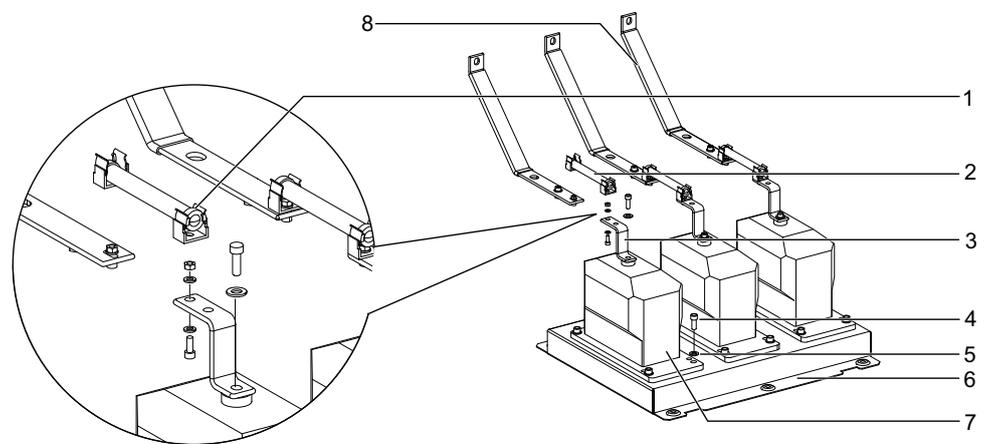

Figure 55
1. Press the fuse lock (1) , and pull the fuse (2) upwards.
2. Remove the fuse (2). Refer to Figure 55.
1. Unscrew the M10 screws (4) and remove the washer (5) provided on the mounting plate (6) on the either side of VT (7). Refer to Figure 55.
2. Remove the fuse lock (2) from fuse connection copper bar (3) and VT connection copper bar (8).
3. Remove the VT (6).